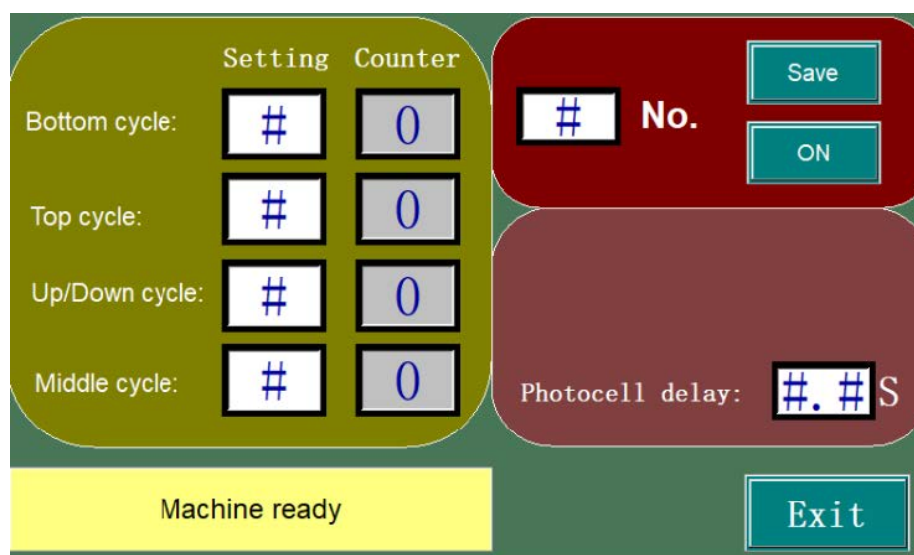

Figure 9 Auto Display
- Press the AUTO button in the main menu to set parameters through the interface shown in figure 9.
- Once the parameters are set, click the “Save” button on the screen to store the parameters for assigned group number. A total of five sets of parameters can be stored. To use any of the saved parameters, select the group number. (See Figure 9)